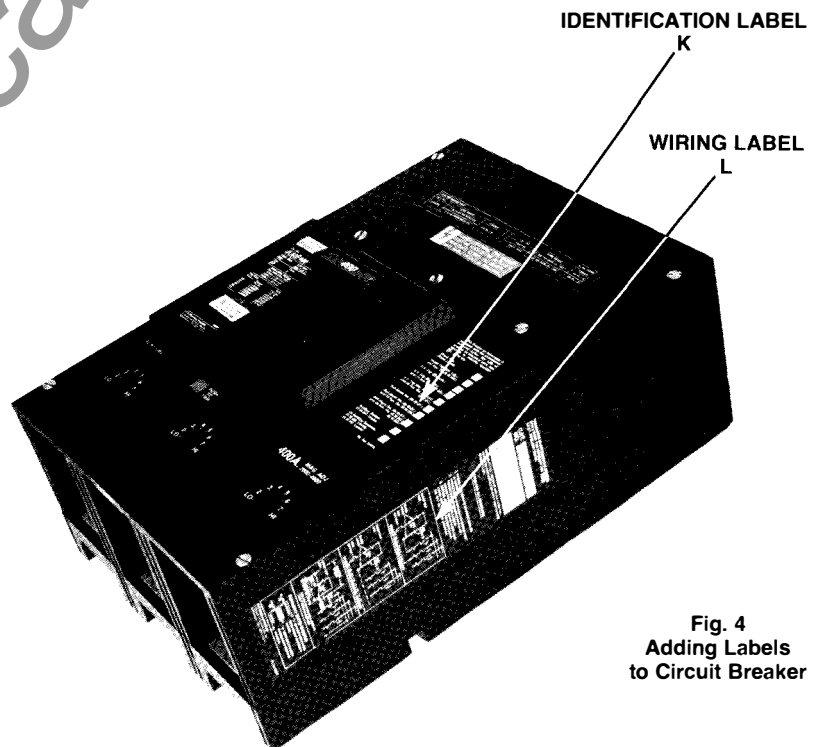

Fig. 4
- D. Align mounting block (2) with cutouts in switchboard mounting pan (other than Cat. No. PL5796 pan) and secure in place with  $\frac{5}{16}$ " lockwashers (3) and  $\frac{5}{16}$ " bolts (4) which are supplied.
**Breaker Preparation** (Fig. 4) Remove pressure wire connectors from breaker if present.
- E. Place tulip clip assembly (5) on back of breaker in recess provided in base molding. Secure in place with  $\frac{1}{4}$ " Belleville washers (6) and  $\frac{1}{4}$ "-20 x 1 hex head bolts (7) furnished. Recommended tightening torque for these bolts is 5-6 ft. lbs. to assure a good electrical connection. Repeat this procedure for the remaining tulip clip assemblies.
- F. Slide upper end shields (8) into slots provided in breaker case at line and load ends of breaker. No lower end shields are required.
- G. Add accessory label (9) to top of breaker as indicated in Fig. 4.
Add two labels to circuit breaker. Attach identification label (K, Fig. 4) to top of circuit breaker on right hand side. Make sure correct identification square or squares have been checked (✓). Attach wiring label (L, Fig. 4) on side of circuit breaker cover as shown.